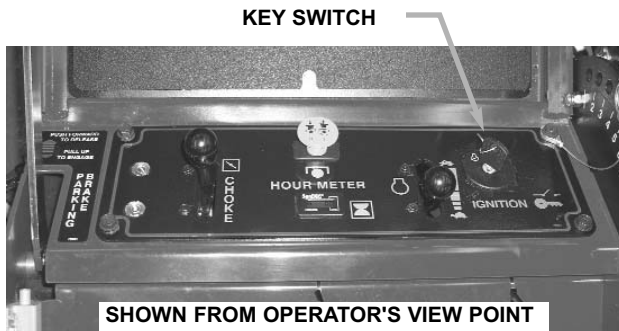

FIGURE 3.6
6. Turn key to the start position until engine starts. See Figure 3.6.
1. Stop engine by turning key to "STOP" position. Move engine speed to the Turtle "SLOW" position and turn key to "STOP". See Figure 3.6.